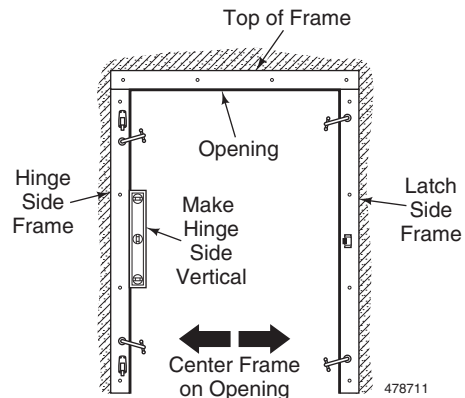

Figure 5
3. Stand the frame up against the wall centered on the door opening. If this is a Track Port door, check that the track rail is centered in the track port. Using two clamps on each side, temporarily clamp the frame to the wall. See *Figure 5*.
4. Loosen the temporary clamps and adjust the hinge side of the frame to vertical. Tighten the clamps. See *Figure 5*.